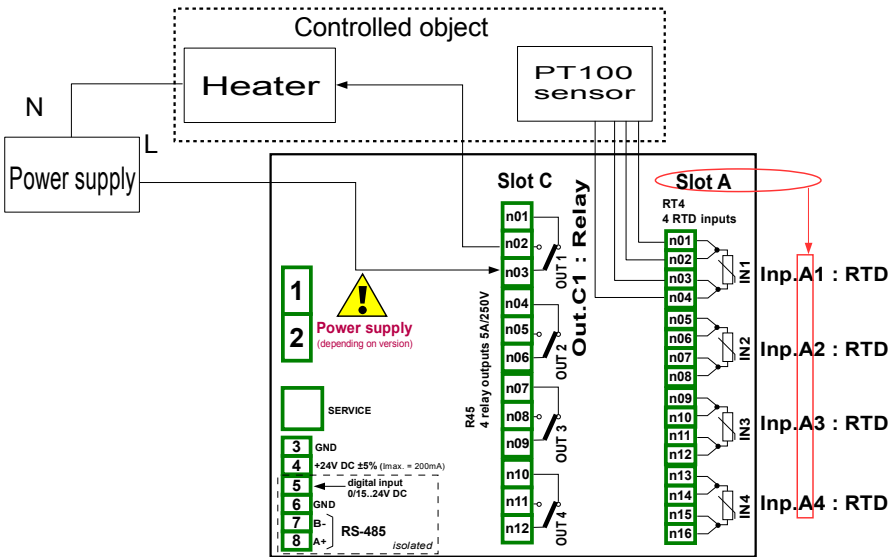

Fig. 7.97. Schematic diagram for the RTD input and Relay output modules
First configure the device as described below, then connect the object and power supply as shown in **Fig. 7.97.**
To control temperature in the object shown in **Fig. 7.97**, it is necessary to configure one **Logical channel** and **Relay output**.
- **Source** parameter set as **Inp.A1 : RTD** (see **Fig. 7.97**),
- to the heater. For this example it is the output named **Out.C1 : Relay** (see **Fig. 7.97**),